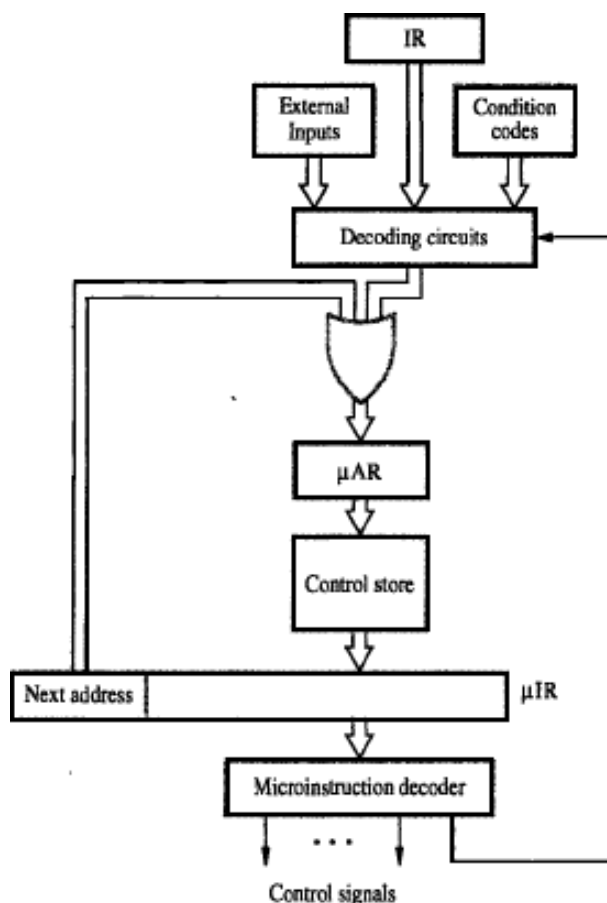

Figure 7.22 Microinstruction-sequencing organization.
• The flexibility of this approach comes at the expense of additional bits for the address-field(Fig 7.22).